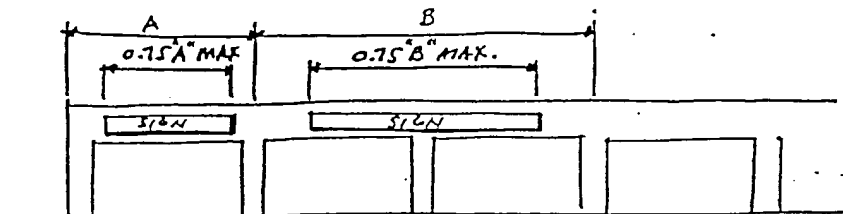

Figure 36
- ☐ The total length of each sign should not exceed 75% of the frontage of the business (Figure 36).